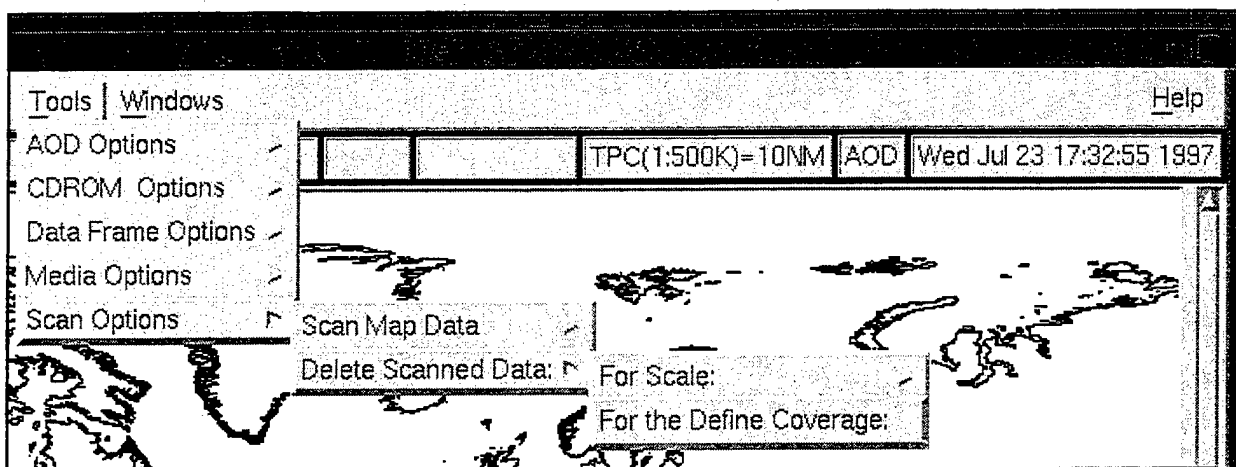

Fig. 67 — Delete a defined coverage of scanned data (at one or more scales)
- (2) To delete a defined coverage of scanned data (at one or more scales), first use the MMC define coverage buttons (Sec. 3.2.3) to outline the area(s) to be deleted (individual segments or entire areas). Then click on *Tools, Scan Options, Delete Scanned Data, and For the Defined Coverage* (Fig. 67). MMC will display a verification message; click on *Continue* to proceed or *Abort* to cancel.
- (3) The third method of deleting scanned data is while the user is reviewing it. This method is not part of *Tools, Scan Options, Delete Scanned Data*, but it is an easy way to selectively delete scanned data on the hard disk prior to archiving it to CD or including it in a composition. In particular, this is probably the best way to delete “partial segments” around the edge of a scanned area in preparation for seamlessly merging the scanned data with surrounding CAC data. Partial segments are not completely filled with chart data (i.e., they are partially black), so if they are inadvertently used as part of a final composition, partial segments would introduce gaps into the image.